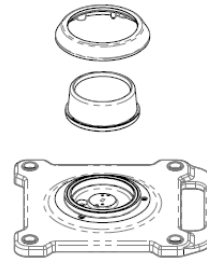

Figure 4-7
3. Remove the upper cover of the shell and replace a new inverse tape prism (Figure 4-7).